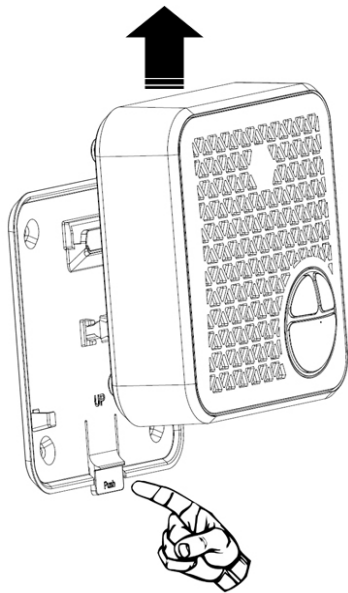

Figure 3
9. Install the module as indicated on figure 3, 4 and 5